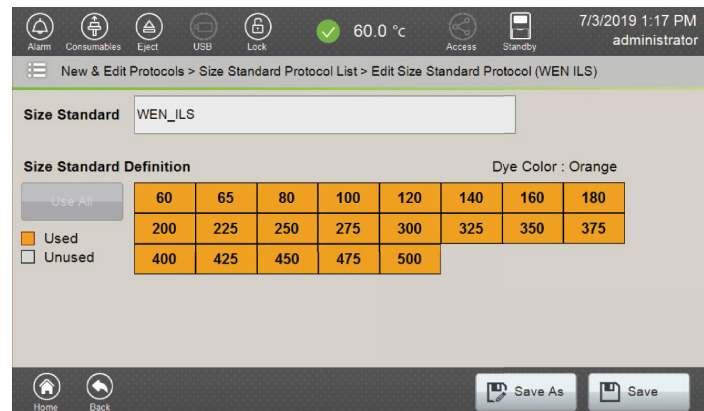

Figure 152. 'Edit Size Standard Protocol' screen.
- Select **Edit** in the footer to open the 'Edit Size Standard Protocol' screen (Figure 152).